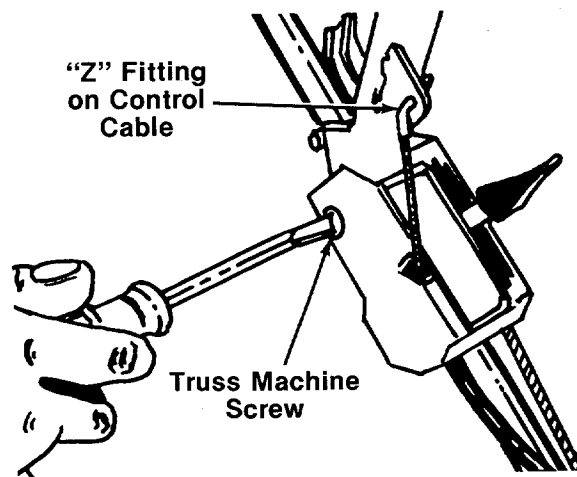

FIGURE 32.
5. Remove one truss machine screw on the inside of the control housing as shown in figure 32.